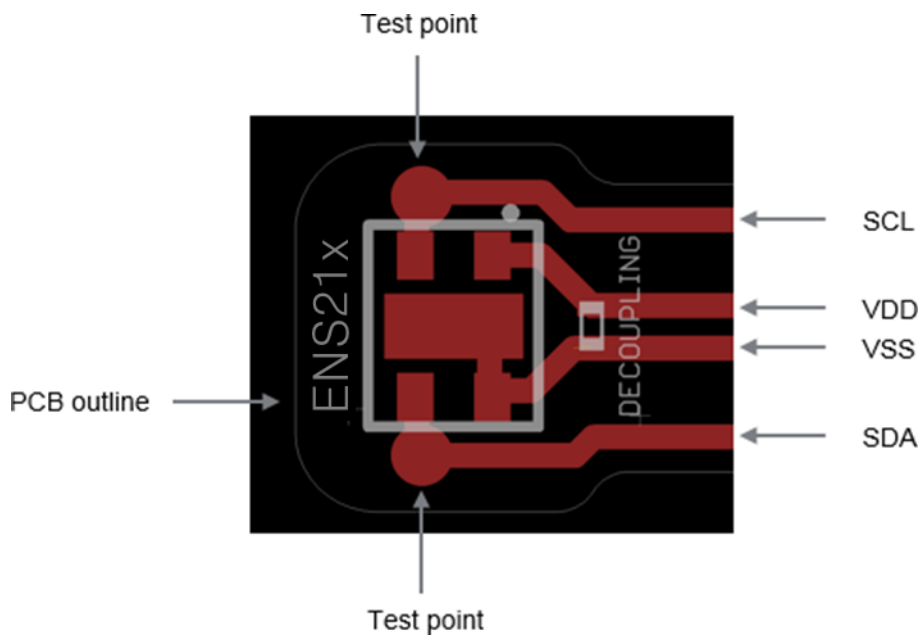

Figure 3: Sensor Decoupling
5. Place the decoupling capacitor as close as possible to the sensor. Generally speaking, noise caused by other circuit elements, e.g. a switch, is shunted through the capacitor. To achieve best performance, the decoupling capacitor should be placed as close as possible to the sensor. Figure 3 shows the decoupling capacitor of ENS21x(A).
6. To reduce the crosstalk and interference between clock line and data line of I²C, the order of I²C interface tracks is suggested as shown in figure 3. This arrangement reduces bus noise especially when traces are long, e.g. exceeding 10cm.